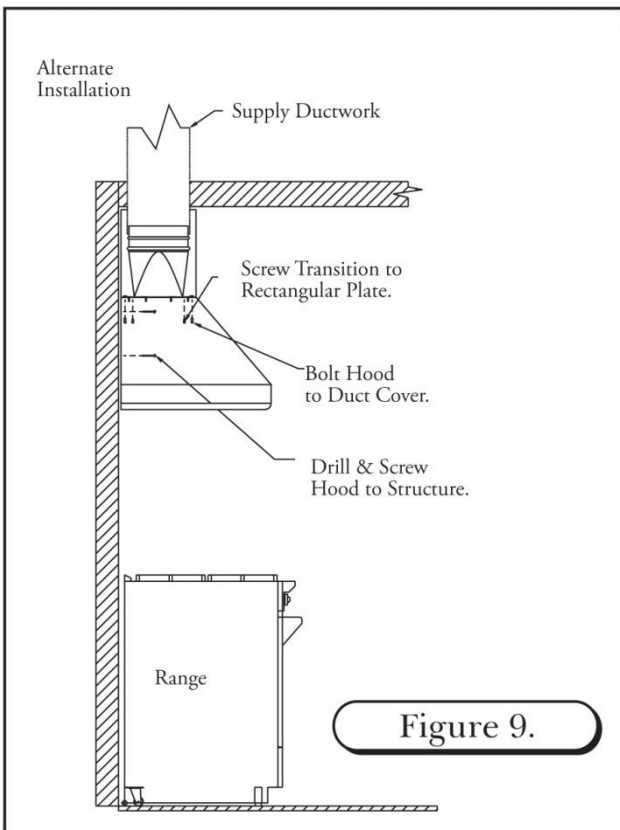

Figure 9.
3. Attach the hood to the duct cover. Fasten the hood to back wall (drilling through the back of the hood and duct cover to locate studs. (See Figure 9)